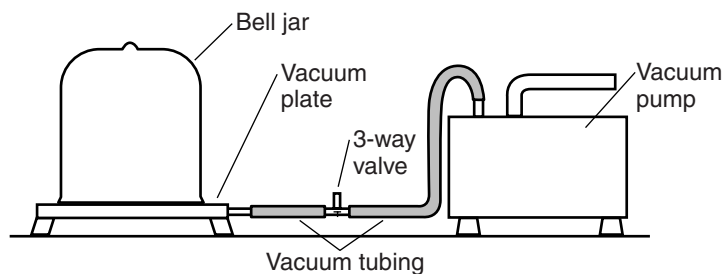

Figure 1.
4. Place the bell jar on the vacuum plate, and properly connect the vacuum plate to the vacuum pump (see Figure 1).